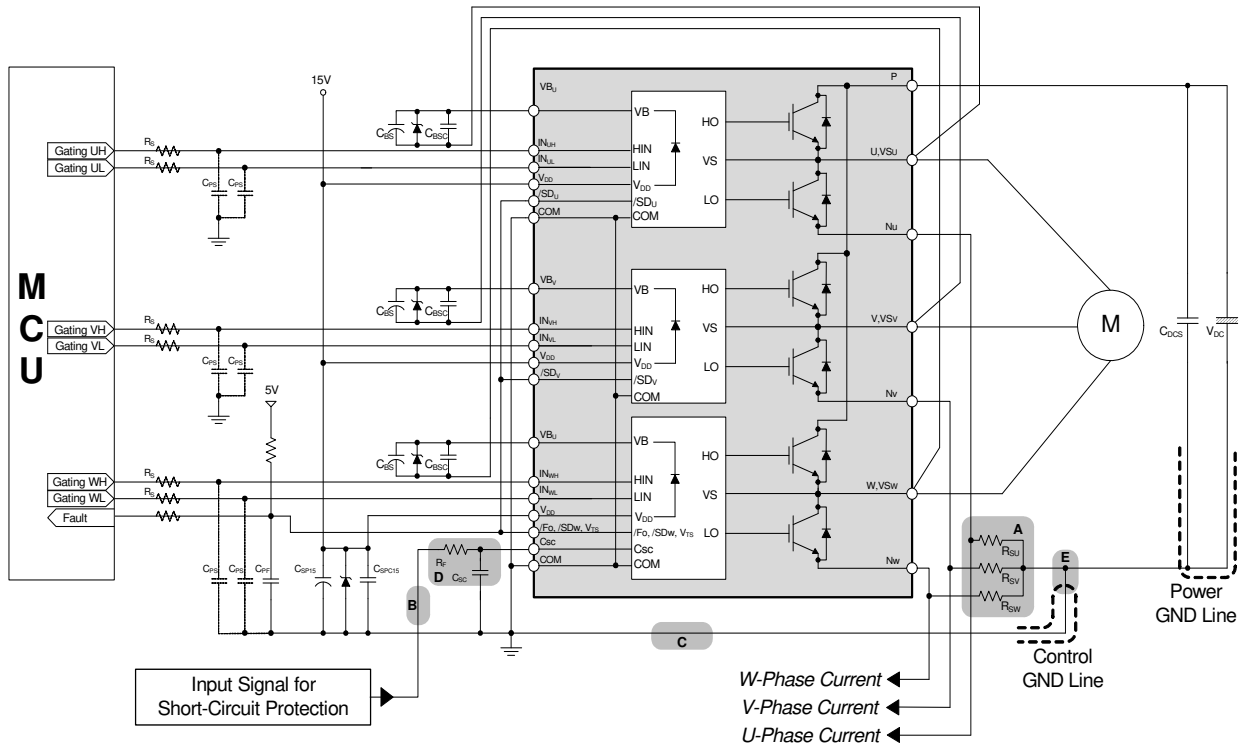

**Figure 16. Recommended MCU I/O Interface Circuit**
12. /FO is open-drain type. This signal line should be pulled up to the positive side of the MCU or control power supply with a resistor that makes  $I_{FO}$  up to 1 mA. *Please refer to Figure 16.*